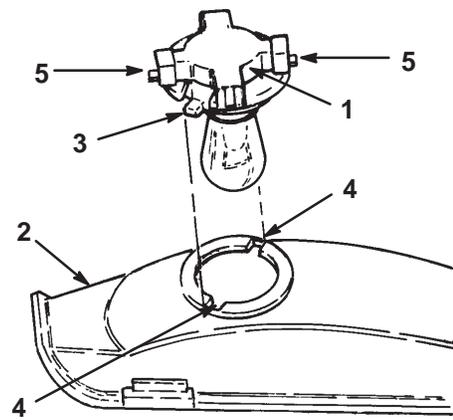

Figure 36
3. Rotate the bulb holder 1/4 turn counterclockwise and remove it from the reflector (Fig. 36).
2. The bulb holder has two tabs (Fig. 36). Align the tabs with the slots in the reflector, insert the bulb holder into the reflector and rotate it 1/4 turn clockwise until it stops.